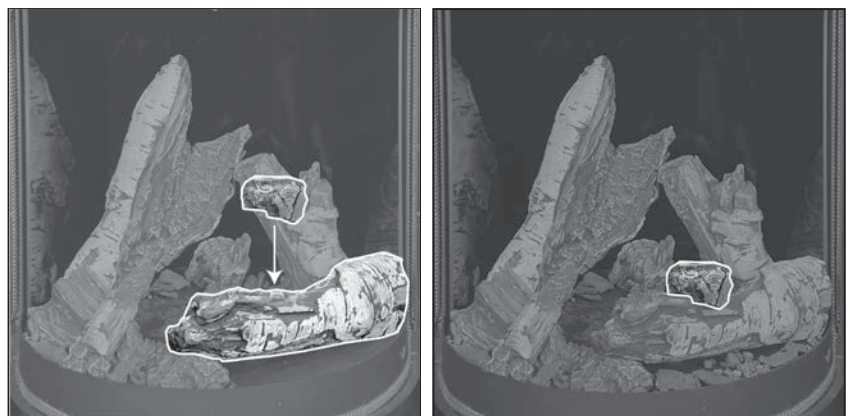

Figure 99: Step 8 - Log 8
STEP 8: Log 8 should notch onto Log 7 nicely. See Figure 99.